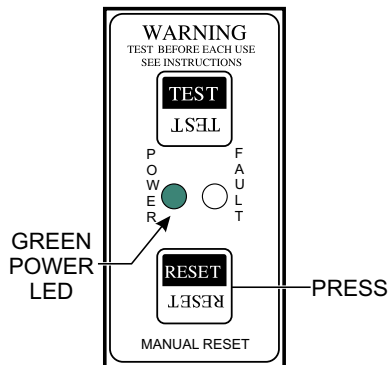

Figure 42. GFCI Module (Green LED ON Reset)
- To restore power, press the RESET button (Figure 42) on the GFCI module and verify that the **red** FAULT LED turns **OFF** and the green POWER LED should turn **ON**